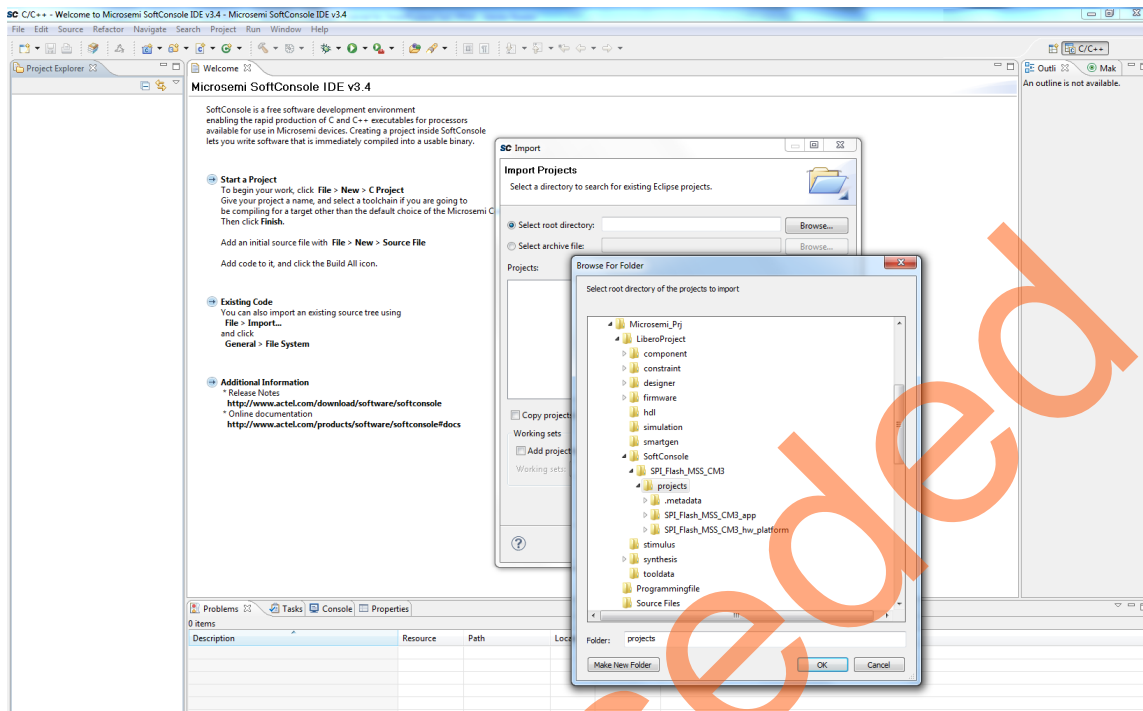

Figure 24 • SoftConsole IDE - Browse for Folder
- Click **Browse** to navigate to the **Select root directory** as shown in Figure 24.